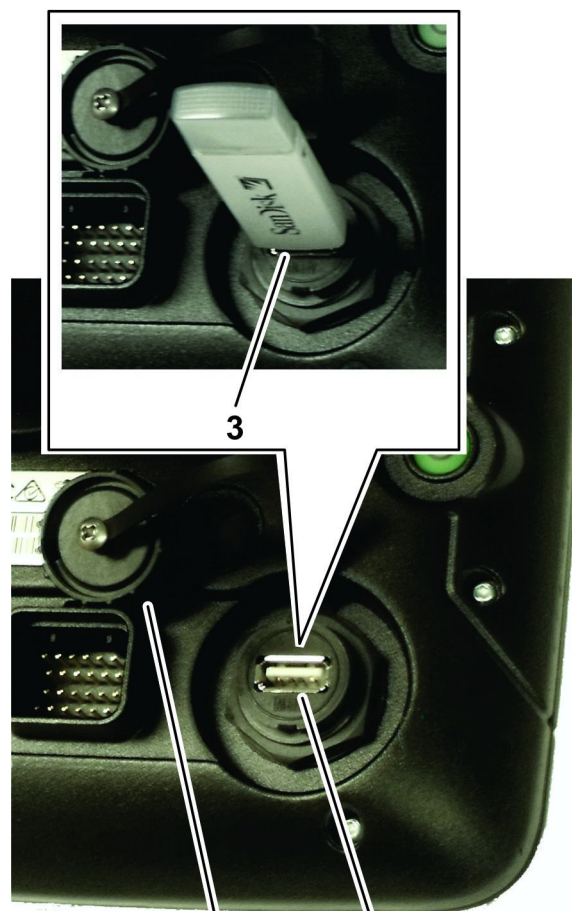

Figure 31
1. Remove the cap for the USB port located below the power button (Figure 31).
2. Insert a USB storage device into the USB socket (Figure 31).